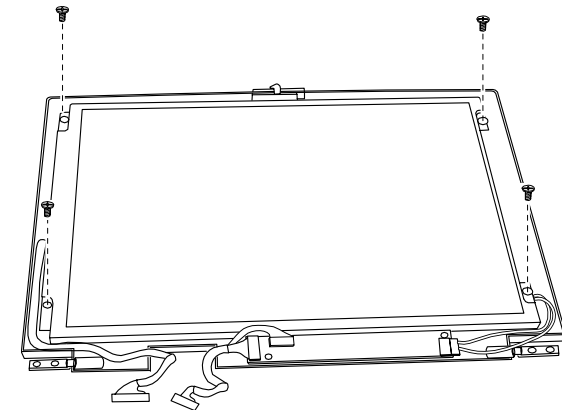

Figure7-19. Removing the Flat Panel Screen
1. Reconnect the cables to the LCD. Fit the LCD back into place and secure with four screws. (Refer to Figure 7-19 )